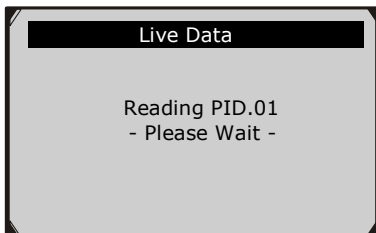

Figure 6-9
- 2) Wait a few seconds while the scan tool validates the PID MAP. (Figure 6-9)